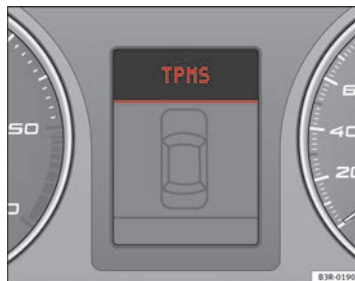

Fig. 45 Display: system fault
The yellow warning (U) lamp remains on if the system is faulty or if the pressure is too low in at least one tyre. In the event of a system fault, the letters TPMS are displayed in the centre of the instrument panel ⇒ fig. 45. If the tyre pressure drops rapidly, message (A) ⇒ fig. 46 will be shown on the central display of the instrument panel. If the pressure loss is more gradual, message (B) ⇒ fig. 46 will be shown on the central display of the instrument panel. This message does not show the tyre affected. Should any of these warnings be displayed: